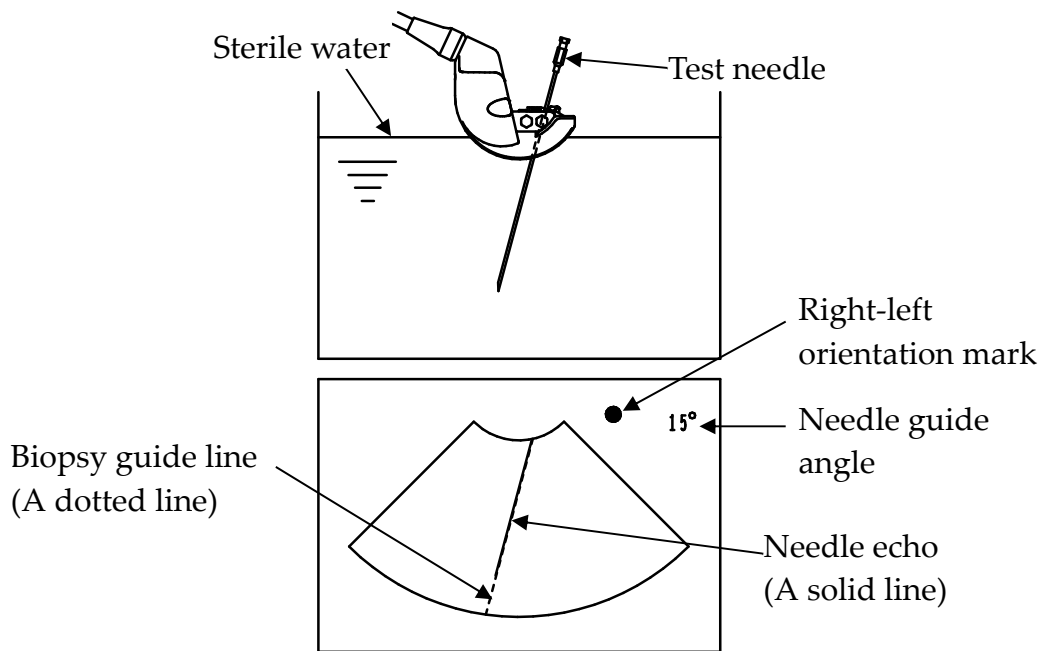
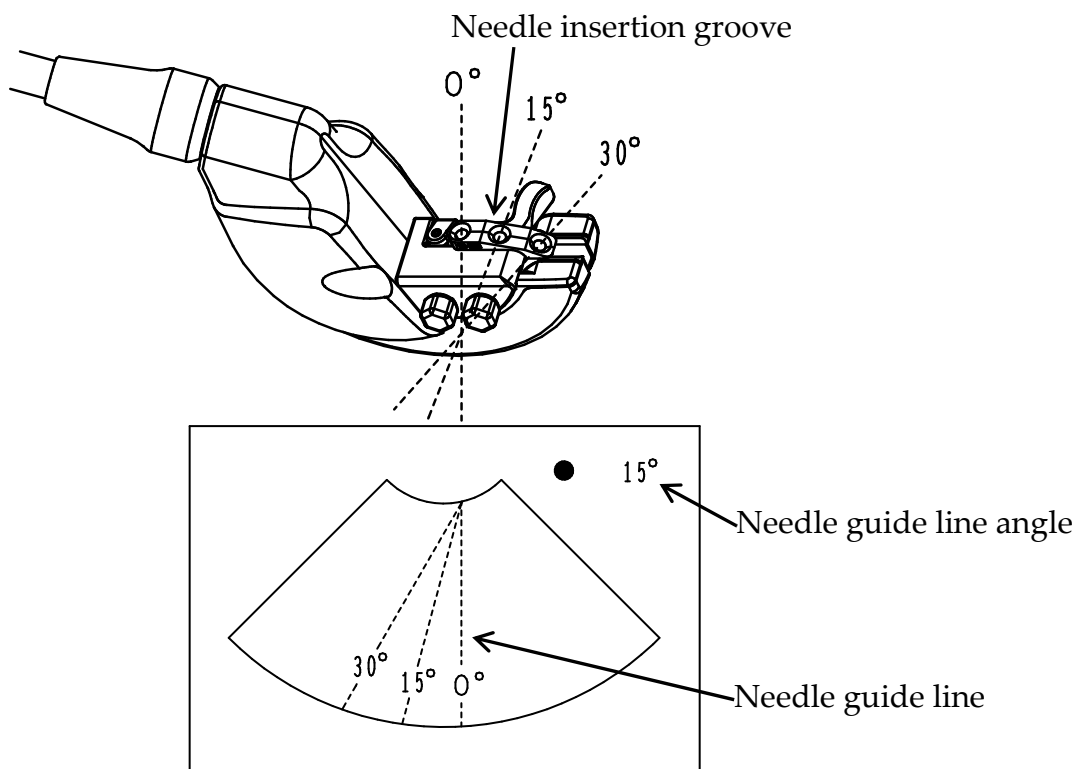

Fig.2 Echo image of test needle
Fig.5 Relationship between the needle insertion groove and biopsy guide line angle
2.1.2. Fill sterile water into a bucket and confirm that a biopsy guide line and an echo image of test needle are overlapped correctly at all selectable angles. (See Fig.2) Relationship between the needle insertion groove and needle guide line angle following "3. Operation Procedure" Fig. 5. Also, Confirm that the needle moves smoothly and there is no blurring between the needle and biopsy attachment.
- 9) Insert a needle into the needle insertion groove of the biopsy attachment set corresponding to the display angle of the needle guide line, fix the probe and perform biopsy. Relationship between the needle insertion groove and needle guide line angle is shown in Fig.5.